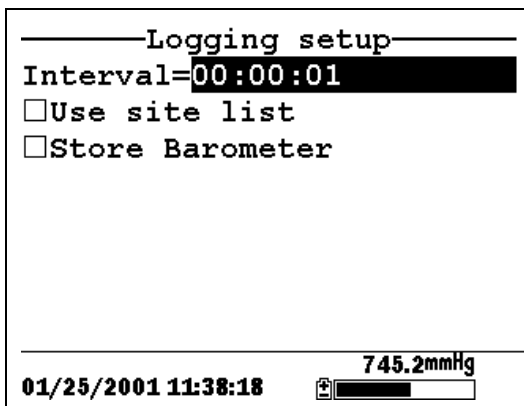

Figure 9.2 Logging Setup Screen
2. Use the arrow keys to highlight the **Store barometer** selection. See Figure 9.2 Logging Setup Screen.